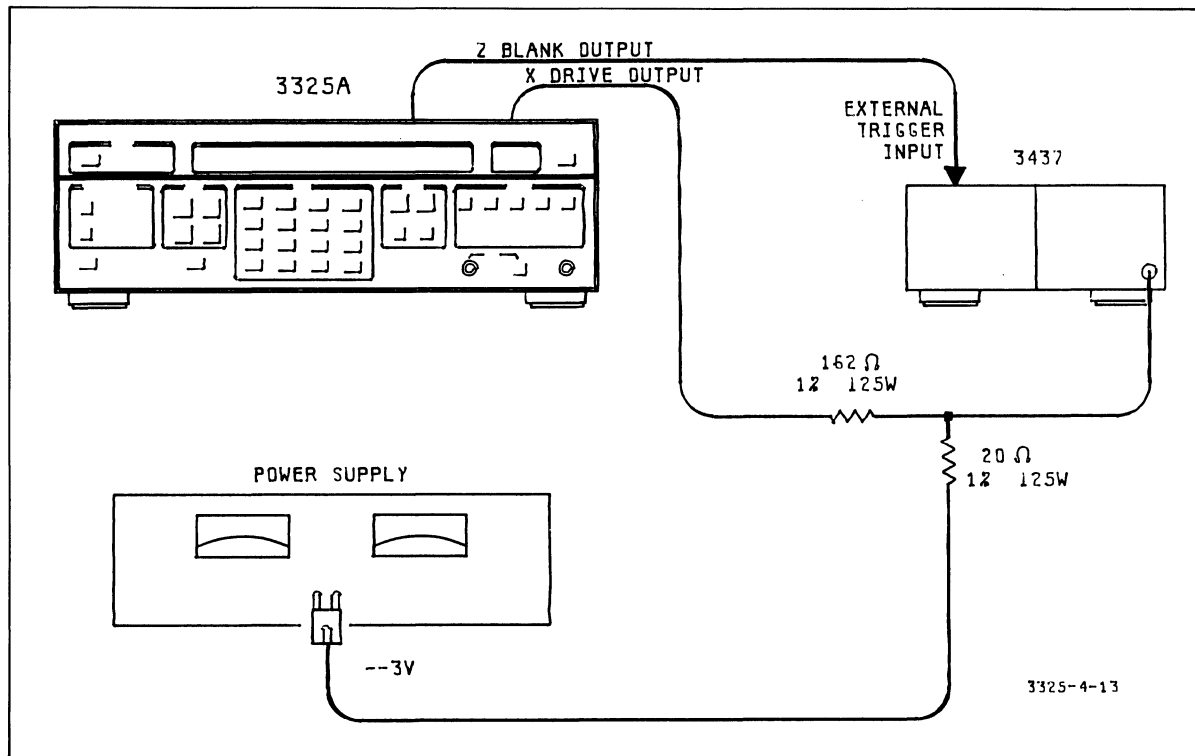

Figure 4-13. X Drive Linearity Test.
a. Connect the equipment as shown in Figure 4-13.